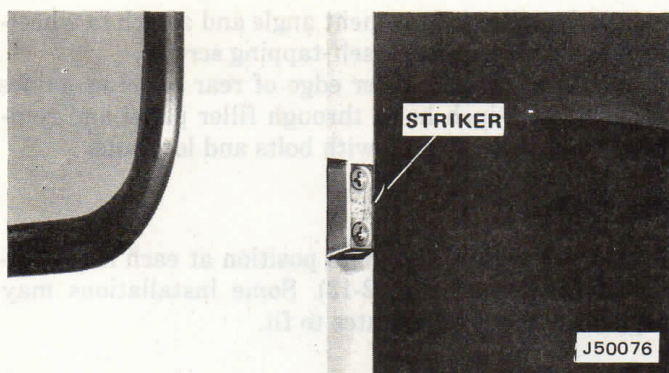

Fig. 2-8 Door Striker Installed
(1) Attach striker to cab rear panel with flat-head screws and locknuts (fig. 2-8).
(2) Use spacers, if necessary, to obtain proper engagement with door latch.